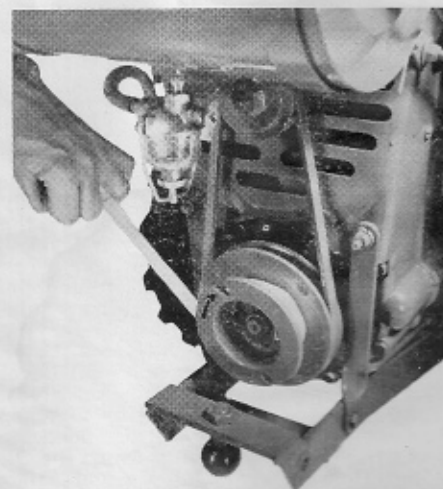

Figure 3
1. Turn the Pulley shown in Figure 3 by hand counter-clockwise (opposite the direction of the arrow on the Pulley) as far as possible.